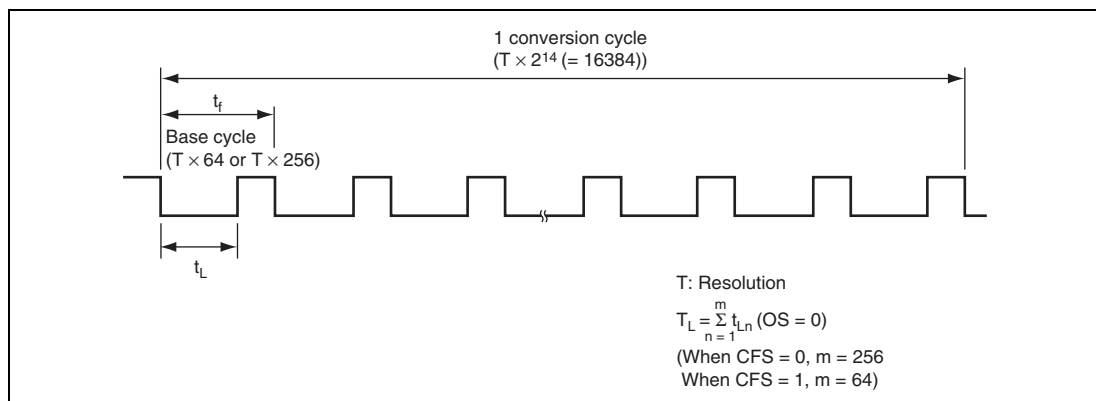

Figure 9.3 PWMX (D/A) Operation
A PWM waveform like the one shown in figure 9.3 is output from the PWMX pin. DA13 to DA0 in DADR corresponds to the total width (T_L) of the low (0) pulses output in one conversion cycle (256 pulses when CFS = 0, 64 pulses when CFS = 1). When OS = 0, this waveform is directly output. When OS = 1, the output waveform is inverted, and DA13 to DA0 in DADR value corresponds to the total width (T_H) of the high (1) output pulses. Figures 9.4 and 9.5 show the types of waveform output available.